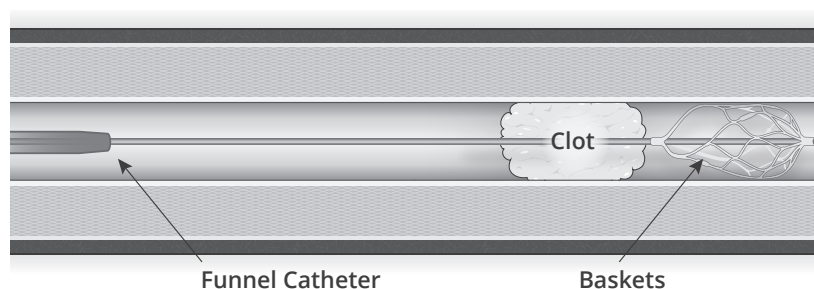

Figure 10
11. Continue to advance the funnel catheter over the basket wire and into the guide sheath. Position the tip of the funnel catheter outside of the guide sheath and proximal to the clot. Avoid deploying the funnel in the clot (see Figure 10). Confirm placement under fluoroscopy.